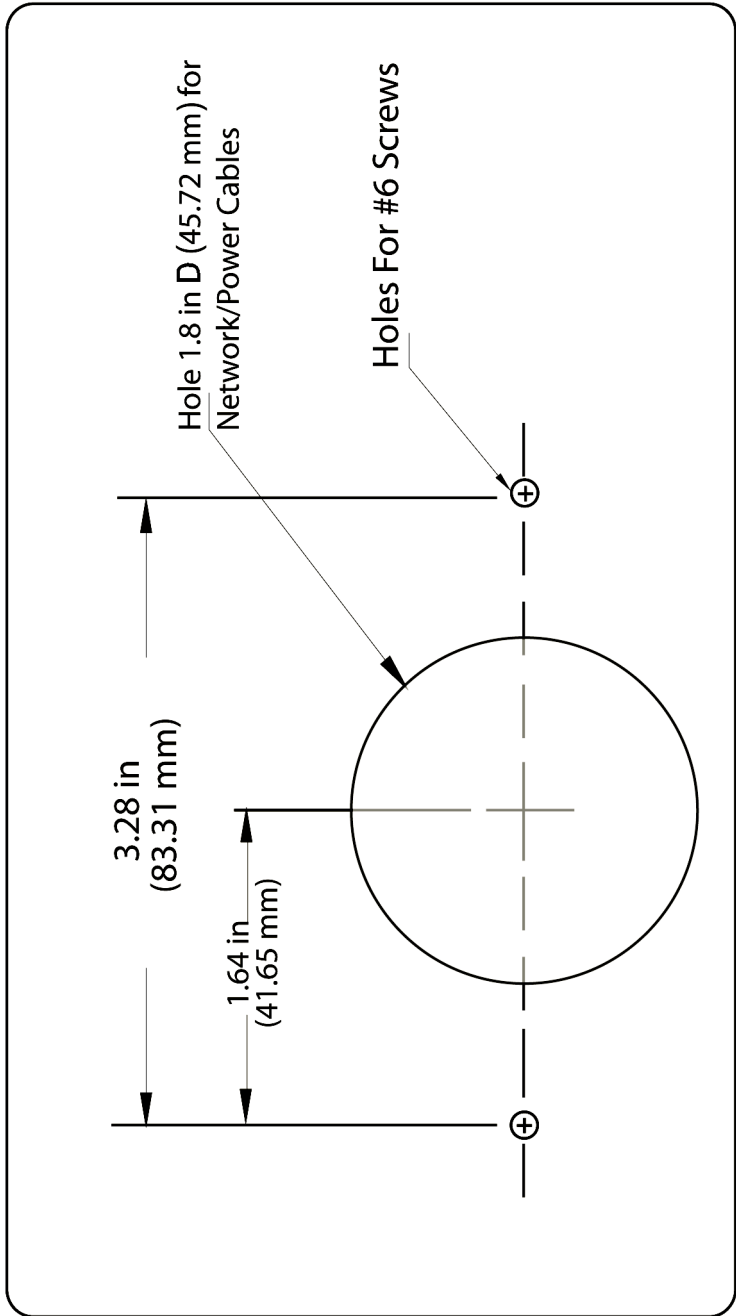

Figure 3-13: Receiver Mounting Template (Actual Size)
- 10 Permanently mount the receiver at the location confirmed in Step 7. If this is not a surface mount, install a single-gang electrical box, pass the cables through the box knockouts, and mount the receiver using two #6 screws. Refer to Figure 3-13 on page 3-26.
- 12 Permanently mount the satellite receiver at the location confirmed in Step 9. If this is not a surface mount, install a single-gang electrical box, pass the cables through the box knockouts, and mount the satellite receiver using two #6 screws. Refer to Figure 3-13 on page 3-26.